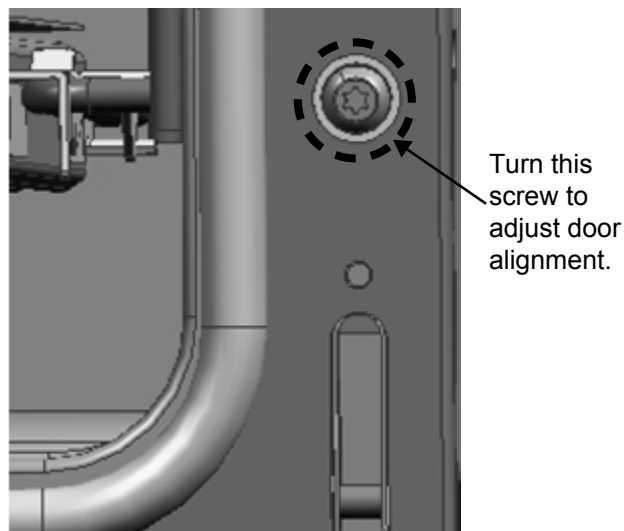

Figure 10: Hinge Receiver Adjustment Screw
3. For large and small ovens, if door or handle appears slightly tilted, you may adjust the hinge receiver by rotating the large Torx-head screw located directly above the hinge receiver with a T-20 Torx driver. Rotate each screw respective to its side and direction the door needs to be adjusted (*Figure 10*).